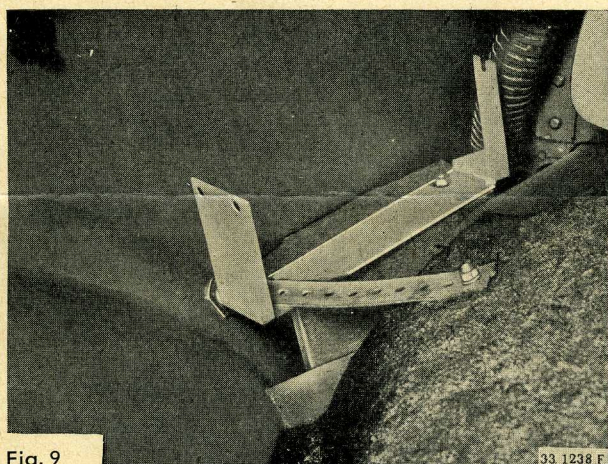

Fig. 9
- d) Place the previously assembled holder in position and secure from inside the car using the components 19, 19a and 19b (M 6 x 12 screws). See Fig. 9.
- e) Secure the power unit (2) and splash protector (22) to the stay (16).